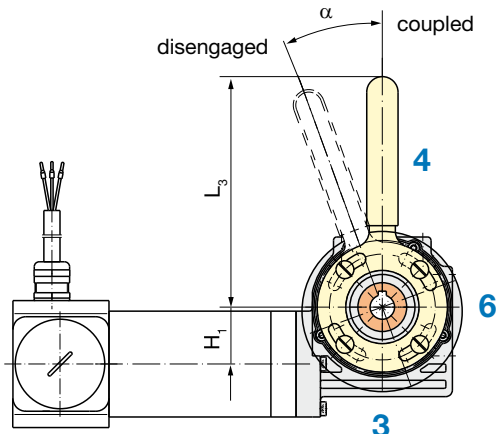

Fig. 132
- 10) Possible lever positions: 3, 4 or 6 (see Figure 132, page 33), only with FRN